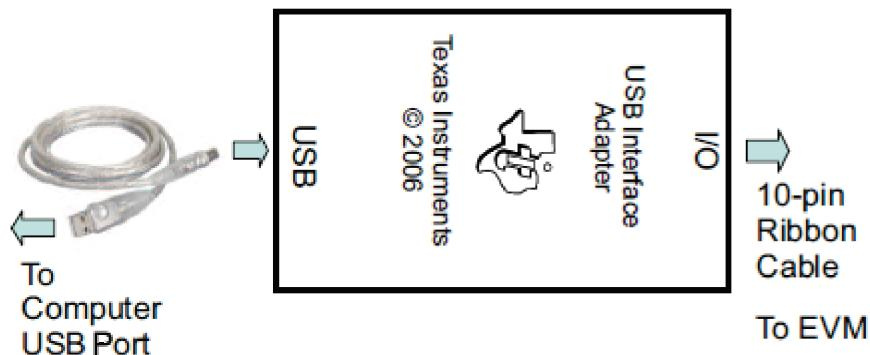

Figure 4. Connector Kit
7. Connect J14 to the HPA172 kit with the 10-pin ribbon cable. Connect the USB port of the HPA172 kit to the USB port of the computer. The connections are shown in Figure 4.